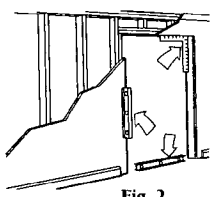

Fig. 2
2. Most door units use a 1 1/4" high threshold which provides adequate clearance for both carpet and pad. If your threshold is higher or lower than 1 1/4", the rough framed opening may need to be adjusted. Check the rough framed opening to be sure it is level and square and not twisted (Fig. 2). Minor out of level conditions can be corrected with shims during installation. If the opening is badly twisted (not plumb), you may need to repair this condition before proceeding.